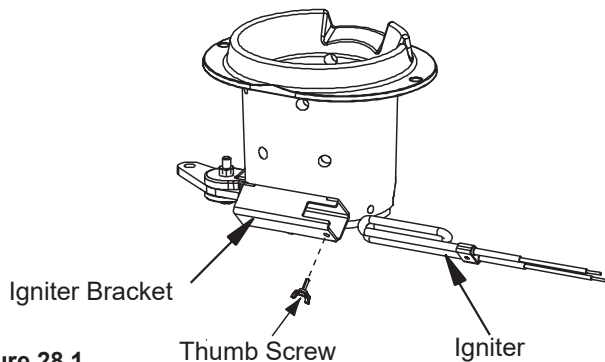

Figure 28.1
2. The wire leads to the igniter are connected to the wire harness with 1/4 inch (6mm) male / female spade connectors. These wires will pull forward approximately 4 to 5 inches (102mm to 127mm) through the grommet at the back of the ash drawer chamber. Disconnect the spade connections and remove the igniter from the chamber. Loosen the thumb screw and slide igniter out (**Figure 28.1**).